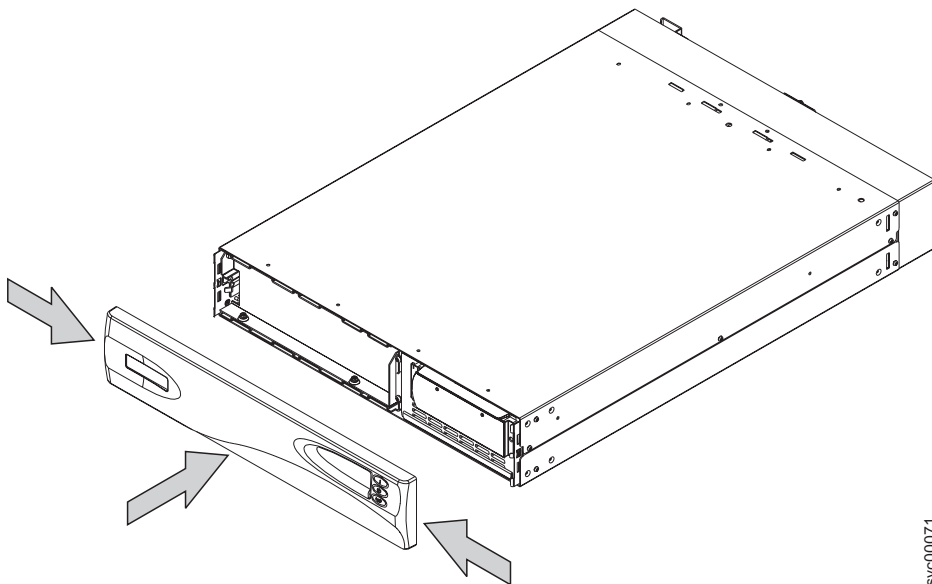

Figure 279. Replacing the 2145 UPS front panel
6. Replace the front panel by pressing the sides inward, and pushing on both ends towards the 2145 UPS, as shown in Figure 279).